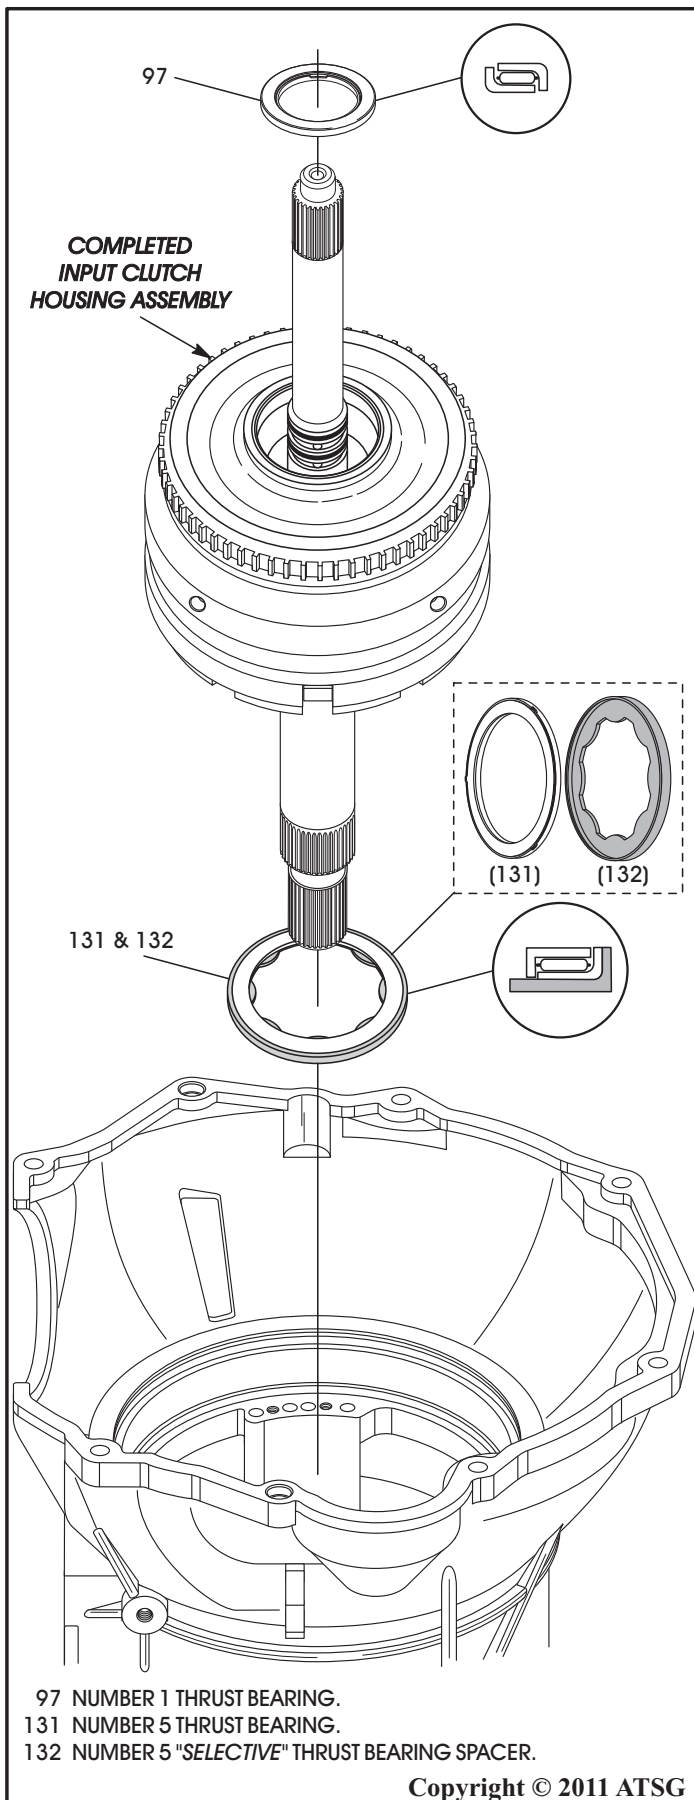
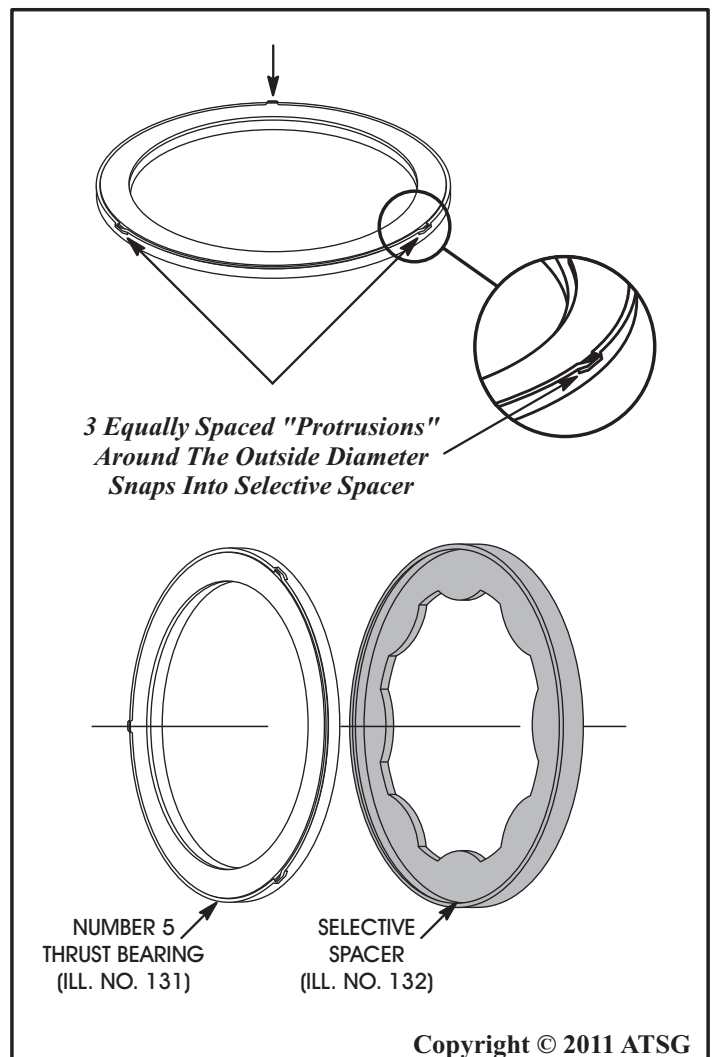
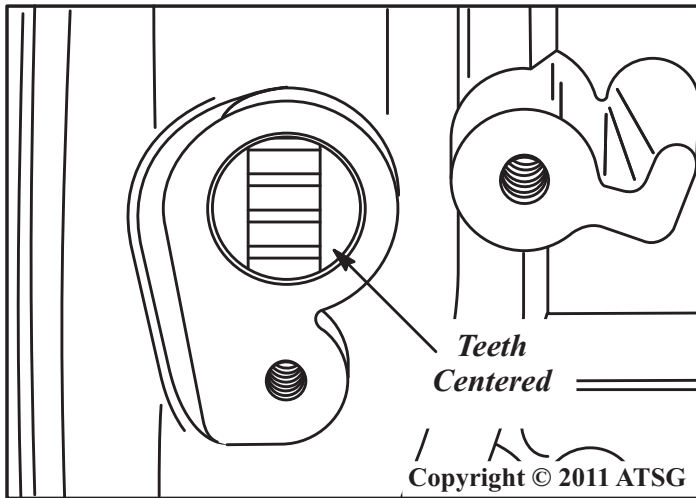

Figure 149
Figure 150
Figure 151
23. Install the number 5 thrust bearing and selective spacer onto back side of reverse clutch hub, as shown in Figure 149, and retain with Trans-Jel®. **Note: Ensure that number 5 thrust bearing is fully snapped into selective spacer, as shown in Figure 150. This spacer is used to set front transmission end-play.**
24. Install the number 1 thrust bearing, in direction shown in Figure 149, down into the pocket of the completed input housing.
25. Install the completed input housing and bearings into transmission case, as shown in Figure 149, by rotating back and forth until fully seated. **Note: The input housing is fully seated when the teeth on input clutch hub are centered in the input speed sensor bore (See Figure 151).**